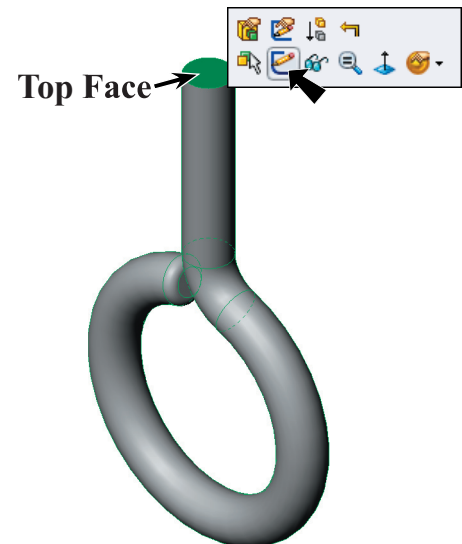

Fig. 15
- Step 2. Click the **top face** and click **Sketch**  on the Content menu, **Fig. 15**.